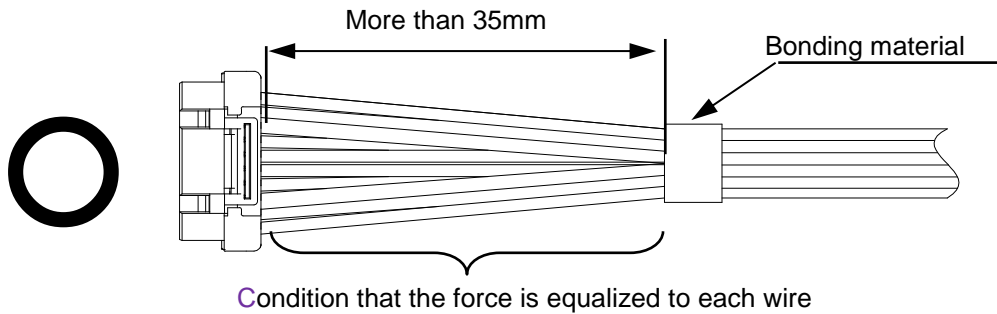

Fig.6-1 Condition that harness is banding properly
- ① Please band the wires at more than 35mm length from connector and equalize the force to each wires(**Fig.6-1**)